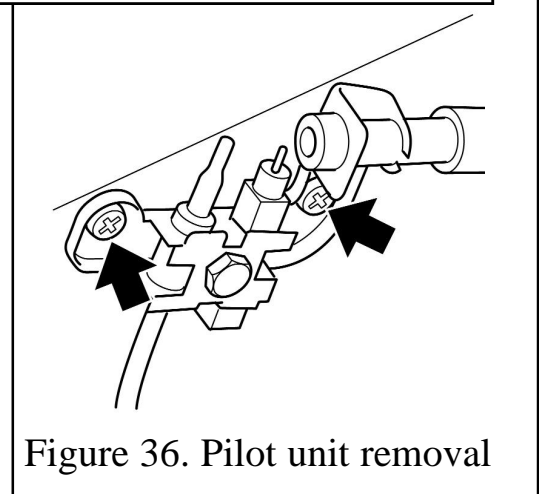

Figure 36. Pilot unit removal
6. Remove the two screws securing the pilot unit (See figure 36).